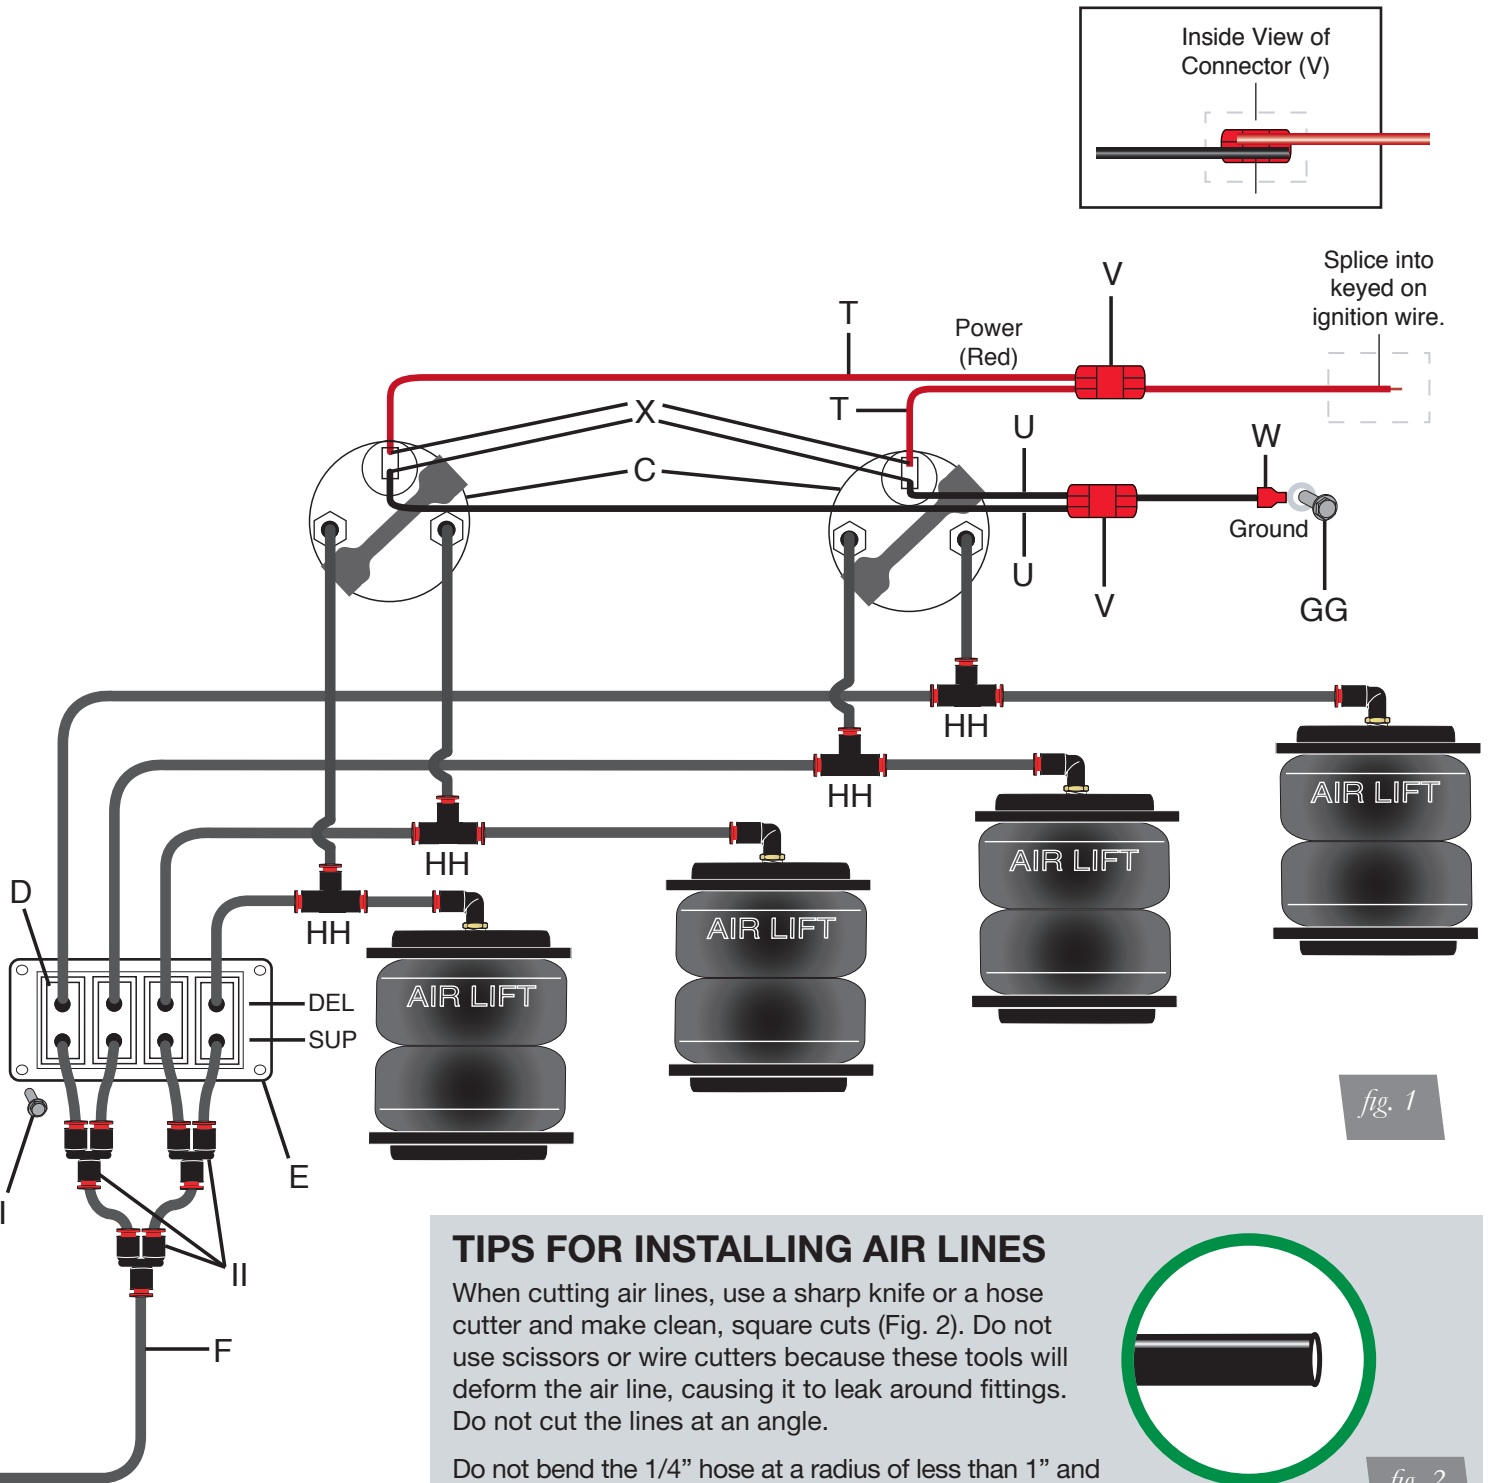

fig. 1
For a complete installation diagram, see fig. 1. (pages 8-9)
1. Prepare the compressor intake. If inside the vehicle, attach filter to port on end of compressor (fig. 1). If the compressor is located outside the vehicle, snorkel inlet filter to a dry location inside vehicle using components supplied with the compressor.
Tank pre-assembly (see fig. 1)
Tank install (see fig. 1)